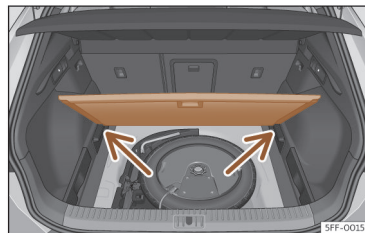

Fig. 180 Variable boot floor: tilted position.
- Rest the floor on its housings >>> Fig. 180 (arrows).